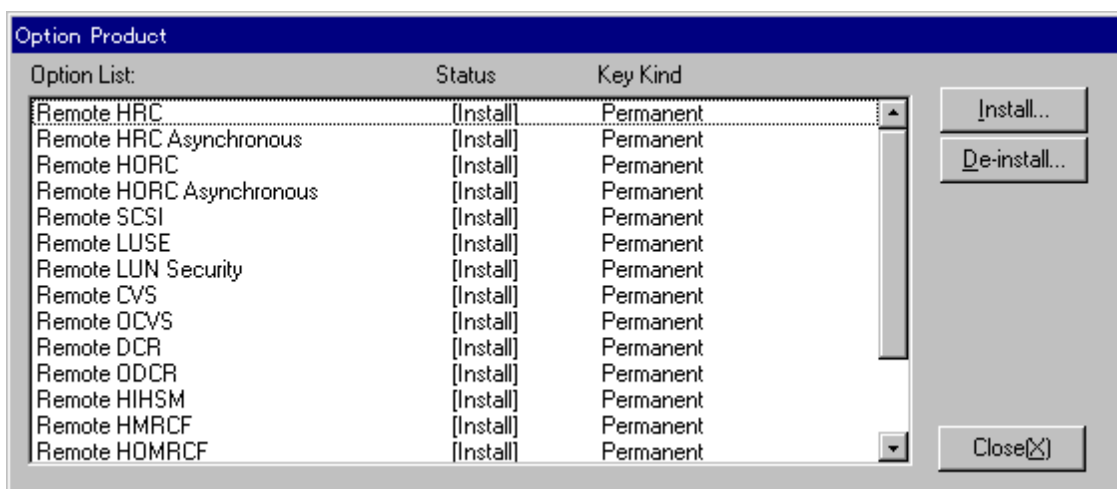

Figure 3.6 Enabling the Remote HRC Options
- b) Select **Option...** to open the RMCMAIN Option Product panel (see Figure 3.6).